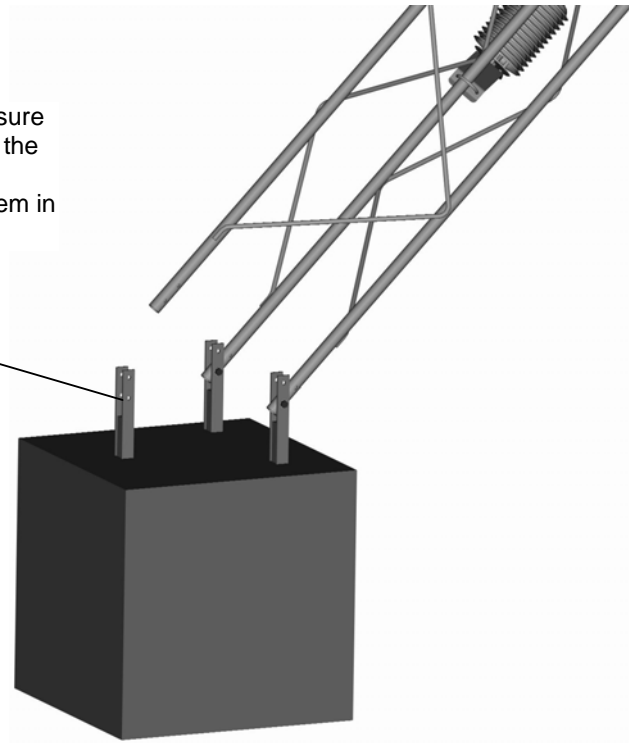

Figure 3 Fitting the Tower to the Legs
1. After the hole has been excavated, secure the steel legs to the aluminium tower using the bolts provided, ensuring that the bent portions at the lower end of the legs face outwards. The legs are designed so that they can act as a pivot, allowing the tower to be tilted to the ground if required. If you will need to tilt the tower, make sure that you set the legs so that the tower can be installed and tilted in the required direction. Tilting is achieved by removing both bolts in the rear leg and the lower bolts in the other two legs, as shown in Figure 3, below.